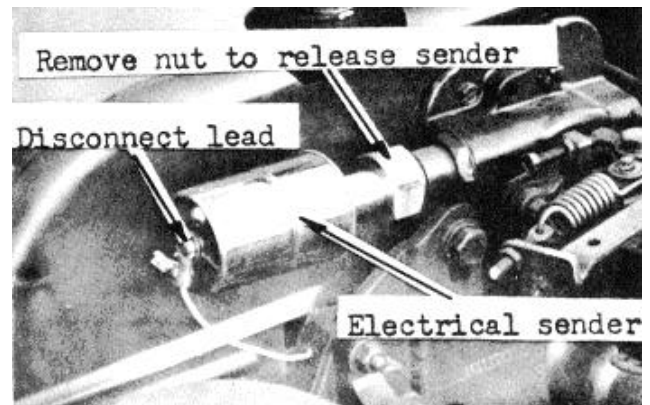

FIGURE 3-6. ELECTRICAL SENDING UNIT
b. Removal - Refer to Fig. 3-6 and remove the electrical sending unit.
1. Refer to Fig. 3-6.